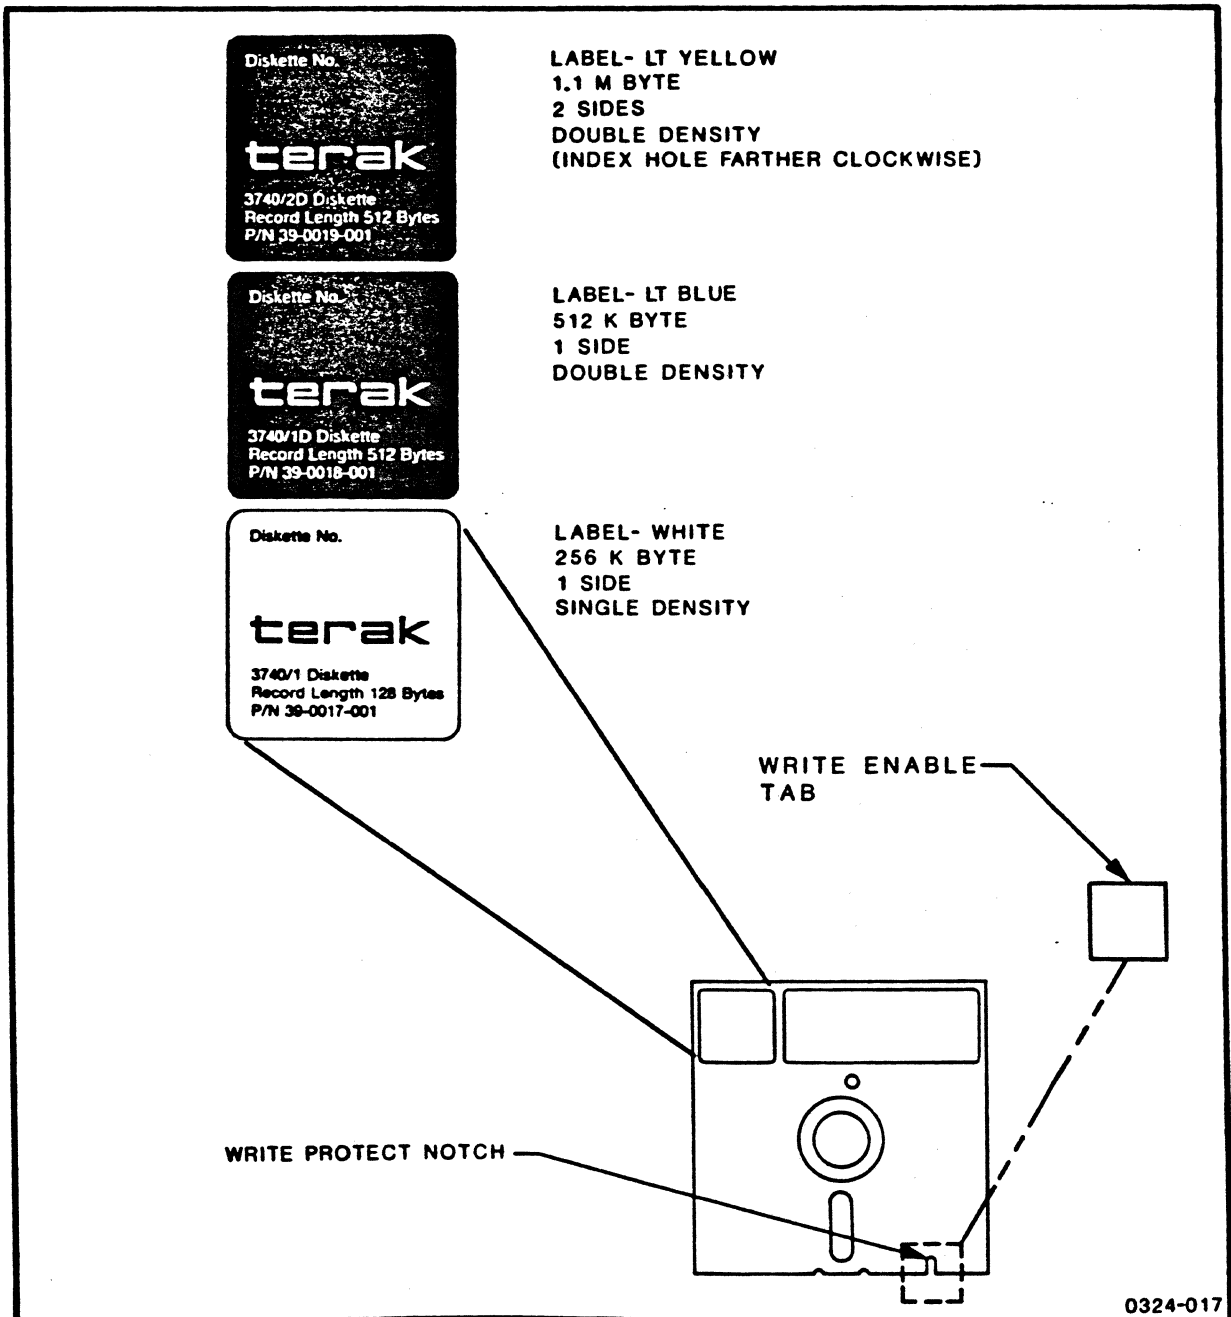

Figure 2.2 - Identifying Terak Disks
5) Insert the Master System disk, for floppy systems, or the Master System Utilities disk, for winchester systems, into the lower drive. The disk insertion process is shown in Figure 2.2 below. Turn the head load lever downward to a vertical position. This loads the software into the system.